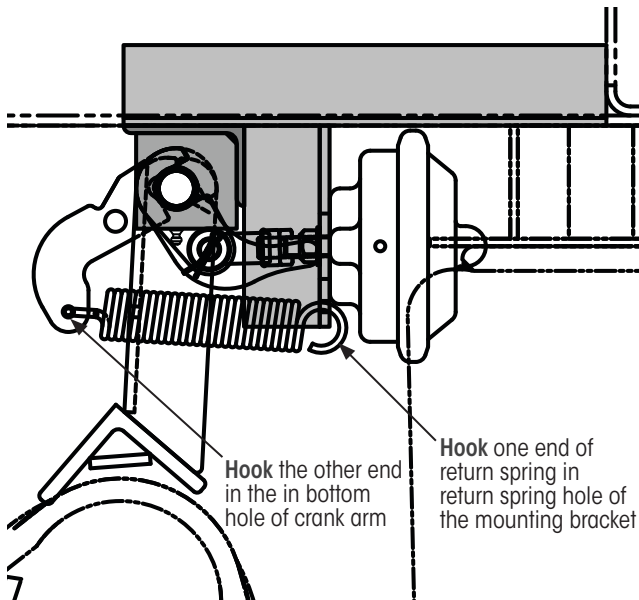

Figure 60: Spring installation details
1. **Hook** one end of the spring to the mounting bracket (Figure 60).